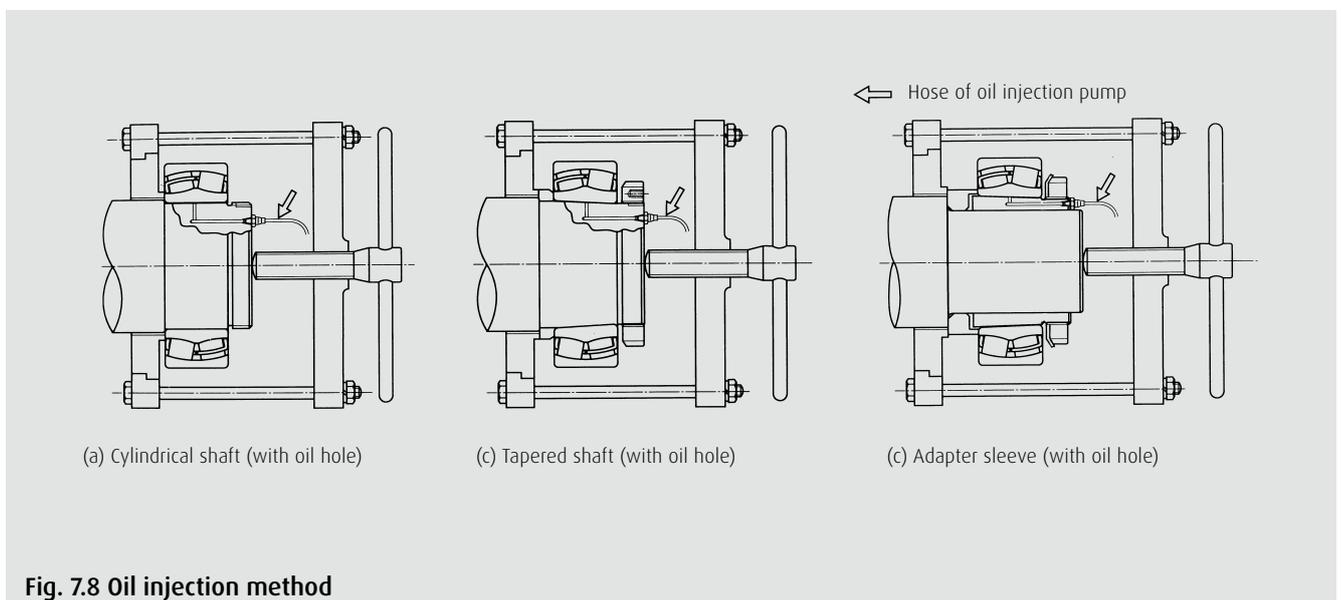

Fig. 7.8 Oil injection method
## 7.2.6 Oil Injection Method (Fig. 7.8)
1. Remove the turning stopper from the lock nut and remove the lock nut in case of the cylindrical shaft. (**Fig. 7.8 (a)**) In case of the tapered shaft (**Fig. 7.8 (b)**), return the nut until about 1/2 of thread length of lock nut mounting thread.
In the case of an adapter sleeve (**Fig. 7.8 (c)**), a special puller can be used jointly. Basically, perform the procedure of Section 7.2.1. "Special puller method" but with the only differences being the connection and action of the oil injection pump. The operation shall be performed by turning the push-in bolt of the special puller while letting the pump run.